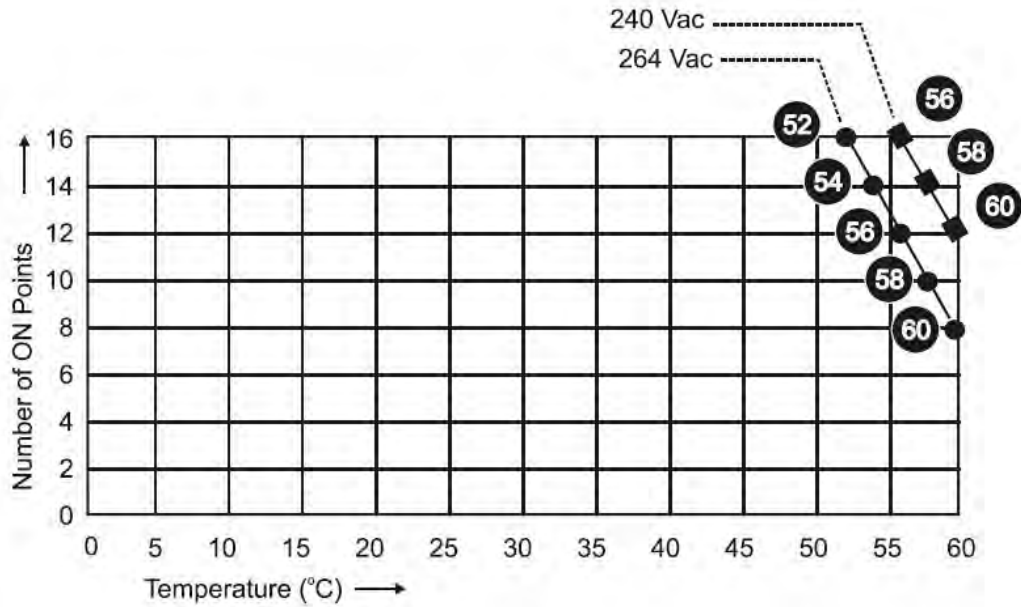

Figure 27 – AC Input Module de-Rating
2. For 240 Vac applications and temperatures above 56° C, or 264Vac, 52° C, de-rate the number of ON inputs per AC input module. (See AC Input de-rating data, see Figure 27.)